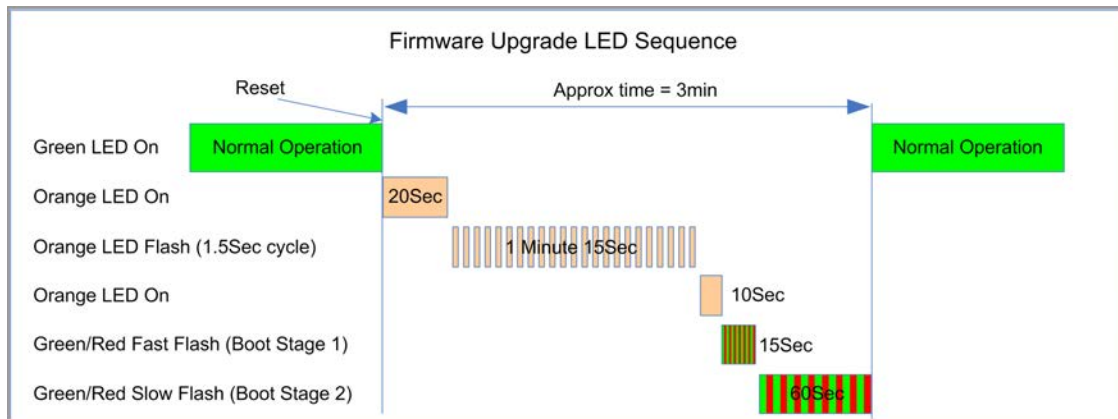

Figure 85 Firmware Upgrade LED Indicators
5. The PWR LED will flash, as indicated in Figure 85.